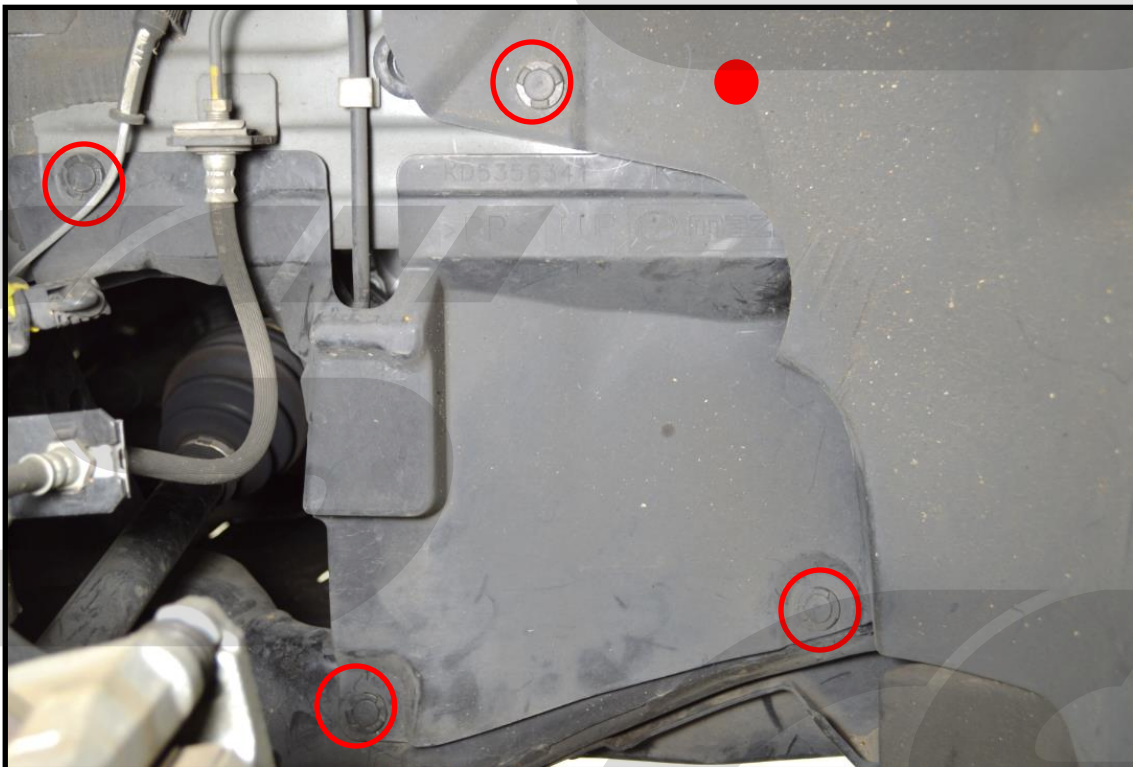

Figure 2a
- a) Remove the cover to gain access to the pulley. Use a flathead screwdriver to pop out the plastic clips **circle in red** in **Figure 2a**. There is also a clip located at the **red dot**.